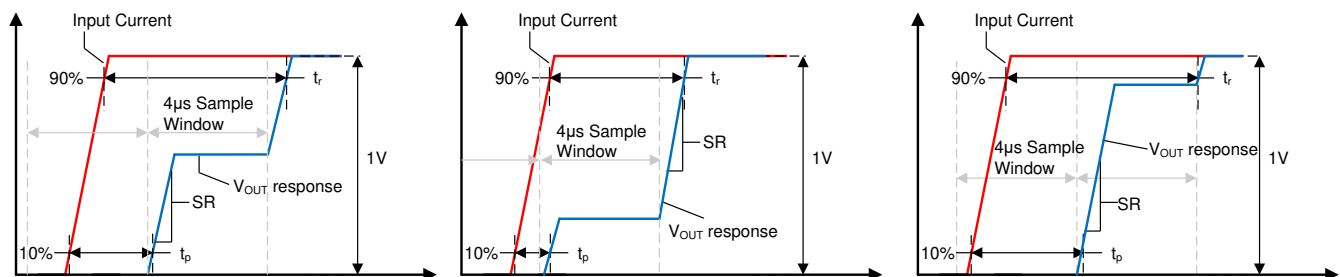

图 8-3. Small Current Input Step Transient Response
Slew rate (SR) is defined as the  $V_{OUT}$  rate of change for a single integration step's output transition, as shown in 图 8-3. Because the device often requires two sampling windows to reach a full 90% settling of its final value, this slew rate is not equal to the 10%-90% transition time for the full output swing.
Propagation delay is the time period between the input current waveform reaching 10% of its final value and  $V_{OUT}$  reaching 10% of its final value. This propagation delay is heavily dependent upon the alignment of the input current step and the sampling period of the TMCS1108, as shown for several different sampling window cases in 图 8-3.
Response time is the time period between the input current reaching 90% of its final value and the output reaching 90% of its final value, for an input current step sufficient to cause a 1-V transition on the output. 图 8-3